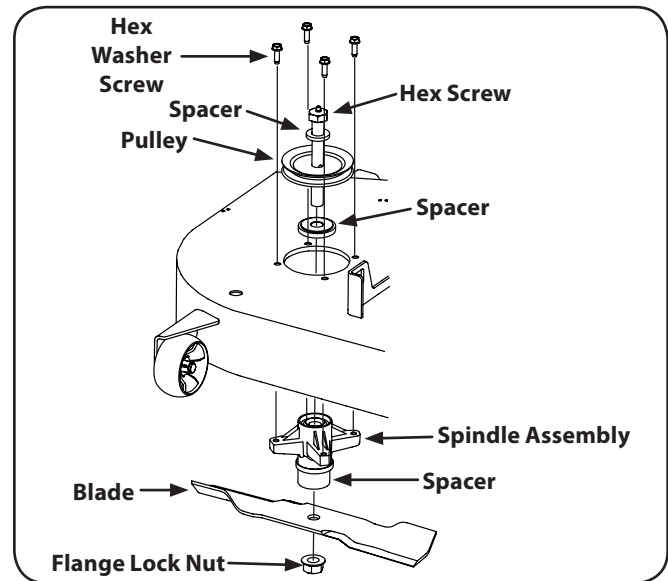

Figure 7-10
3. Use a $\frac{3}{4}$ " wrench to hold the hex nut on top of the spindle assembly when loosening the hex nut securing the blade. A block of wood may be placed between the deck housing and the cutting edge of the blade to help in breaking loose the hex nut securing the blade. See Fig. 7-10.